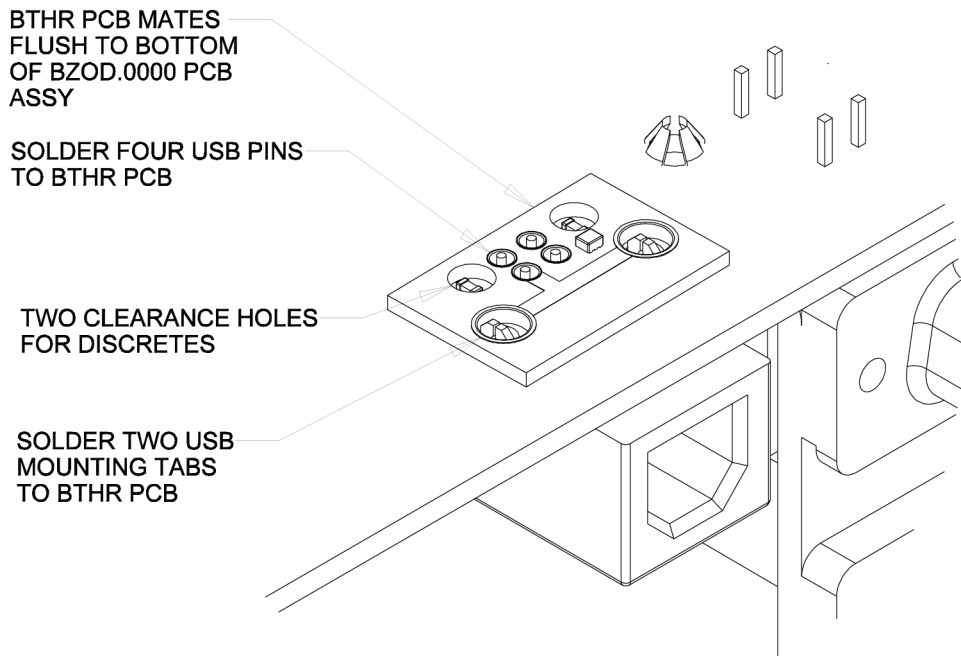
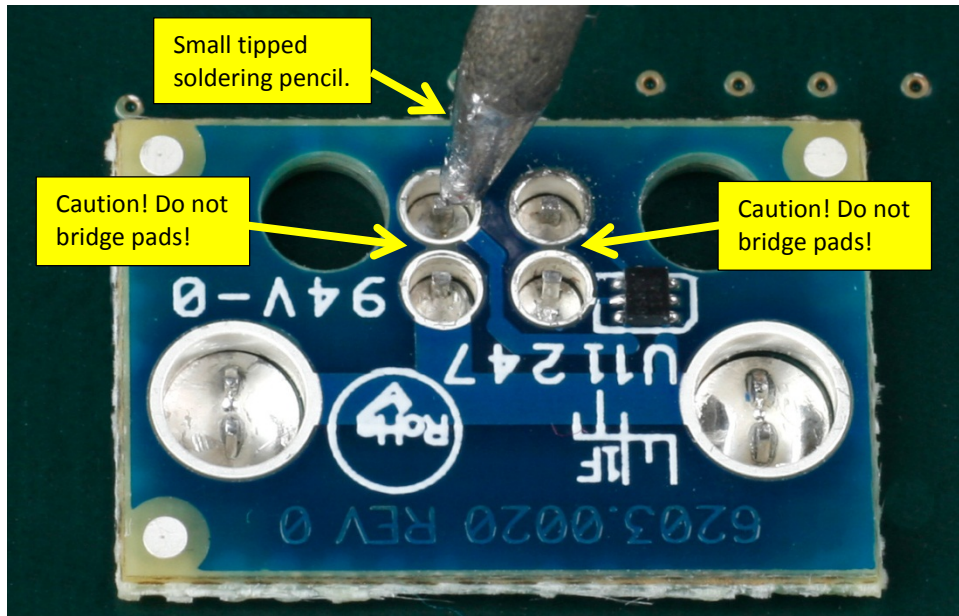

Fig 4 Soldering of BTHR module to BZOD PCB assy.
Fig 5 BTHR module soldering.
9. Solder the BTHR module as shown (Figure 4). Solder the two mounting tabs first, and then the four USB socket pins. Use a small tipped soldering pencil and make contact with both the pin and the plated hole to prevent a cold solder joint (Figure 5). Use caution not to bridge any of the traces.